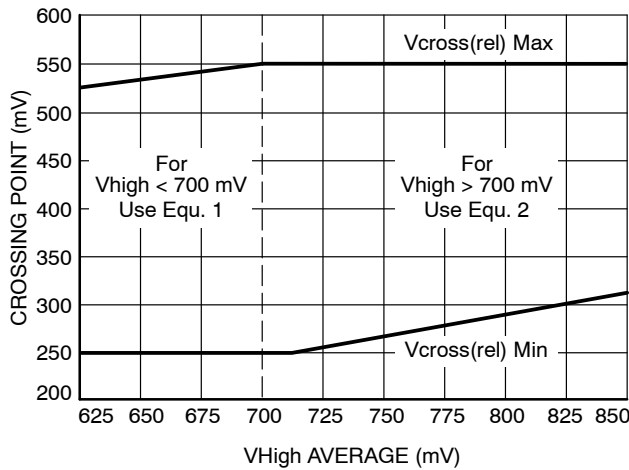

Figure 7. Vcross Range Clarification
28. Vcross(rel) Min and Max are derived using the following, Vcross(rel) Min = 0.250 + 0.5 (Vhavg – 0.700), Vcross(rel) Max = 0.550 – 0.5 (0.700 – Vhavg), (see Figure 7).